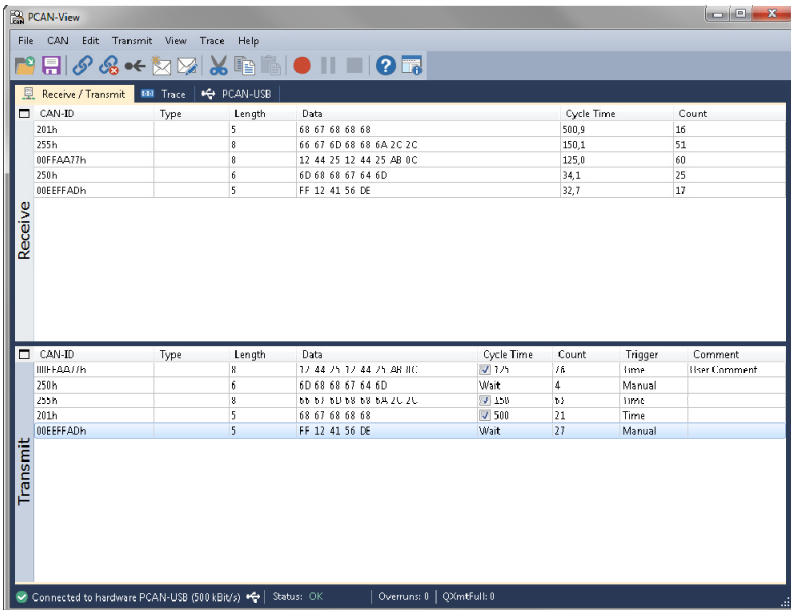

Figure 11: Receive/Transmit tab
6. Finally confirm the settings in the dialog box with **OK**. The main window of PCAN-View appears (see Figure 11).